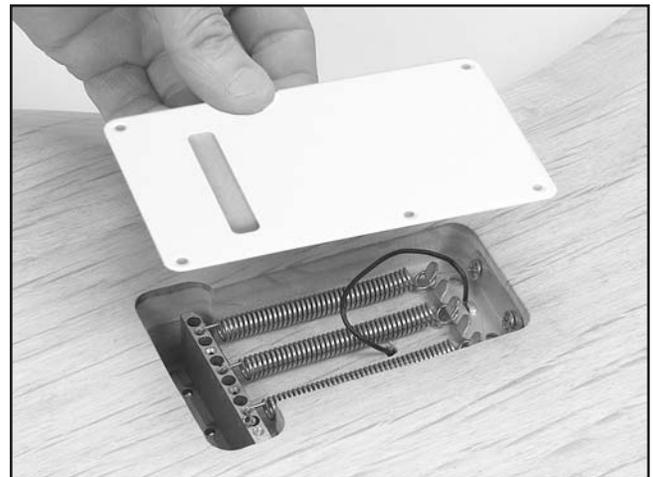

Figure 32. Mounting the back plate.
1. Position the back plate over the cavity in the back of the guitar body, as shown in **Figure 32**.